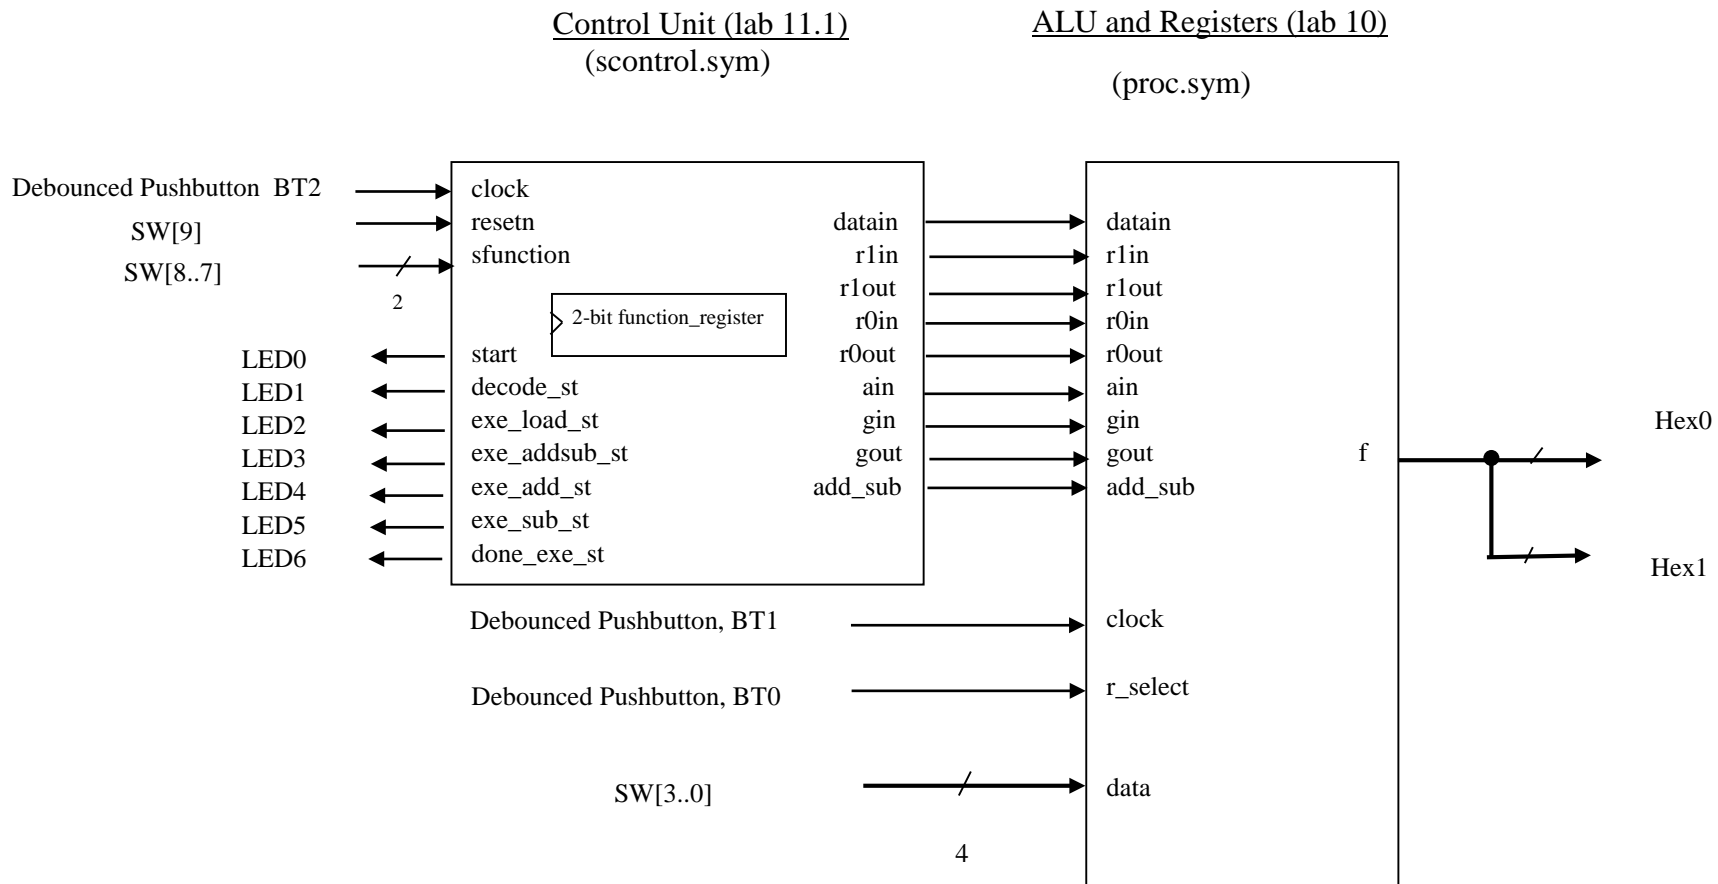

Figure 11.5 The Complete Simple Processor.
2. Create new graphic editor for CompleteCPU as seen in figure 11.5.